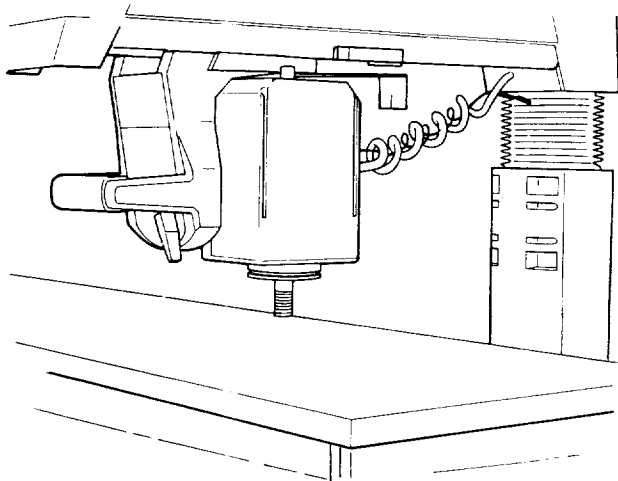

Fig. 69
3. Unlock the *bevel lock*, and turn the *motor* so that the *arbor* is perpendicular to the *table*. (Figure 69)